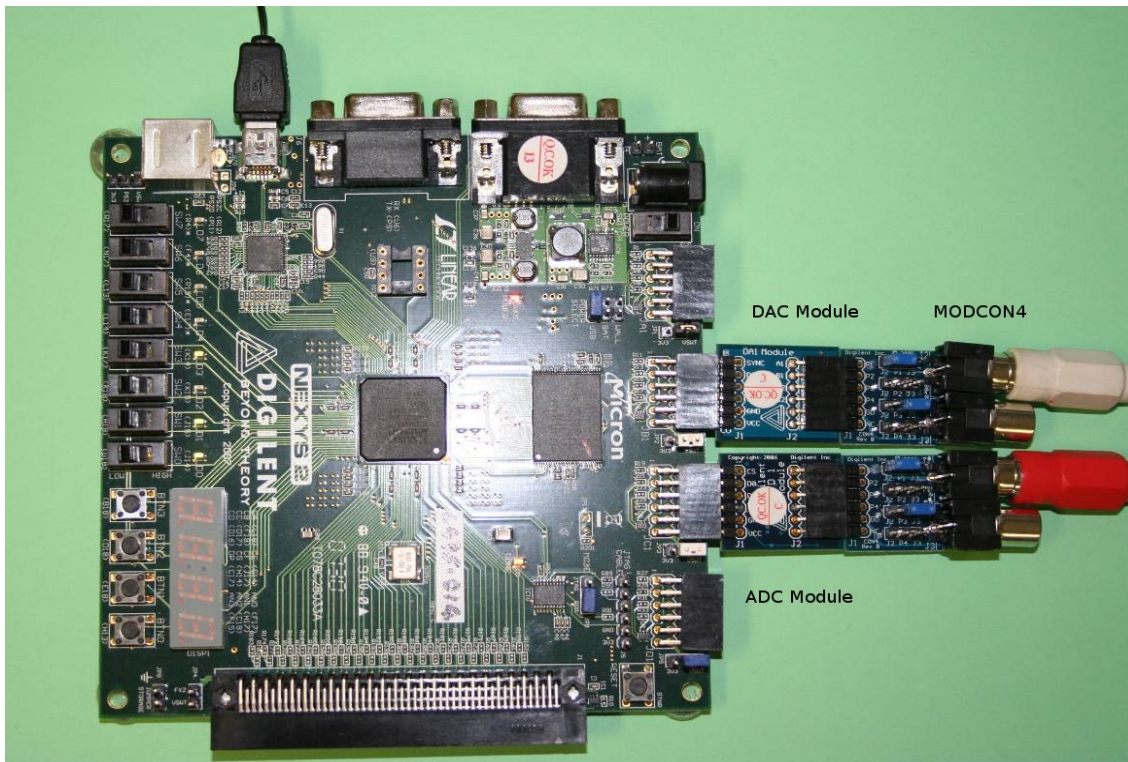

Figure 2. Nexys2 board with cable connections
2. Connect PMOD DA2 to JB1, and connect PMOD AD1 to JC1, both on the top row, then connect a PMOD CON4 to each, so that your connection looks like figure 2 above.